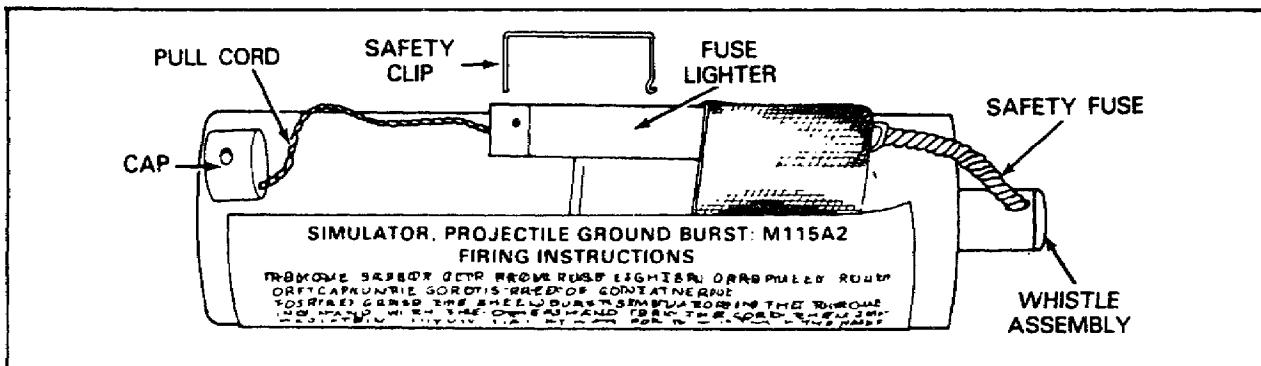

Figure 110. Simulator, Projectile, Groundburst, MI15.
**Simulator, Projectile, Groundburst, M115.** The simulator, projectile, groundburst, M115 (Figure 110) is a paper cylinder approximately 7 inches long and 2 inches in diameter, filled with a photoflash charge. The simulator has a whistle assembly, a time delay (safety) fuse, and a fuse lighter assembly. It simulates the whistle, flash, and noise of explosion of incoming artillery. It functions in the same way as the hand grenade simulator. When the cap is removed from the fuse lighter and the cord is pulled, the fuse lighter ignites the fuse, allowing a 6-to 10-second delay before the fuse ignites the whistle assembly. The simulator makes a loud, shrill whistle for 2 to 4 seconds until the photoflash charge is ignited. When ignited, the photoflash charge explodes, producing a flash and a loud noise. This simulator is white, with a white label and black markings.